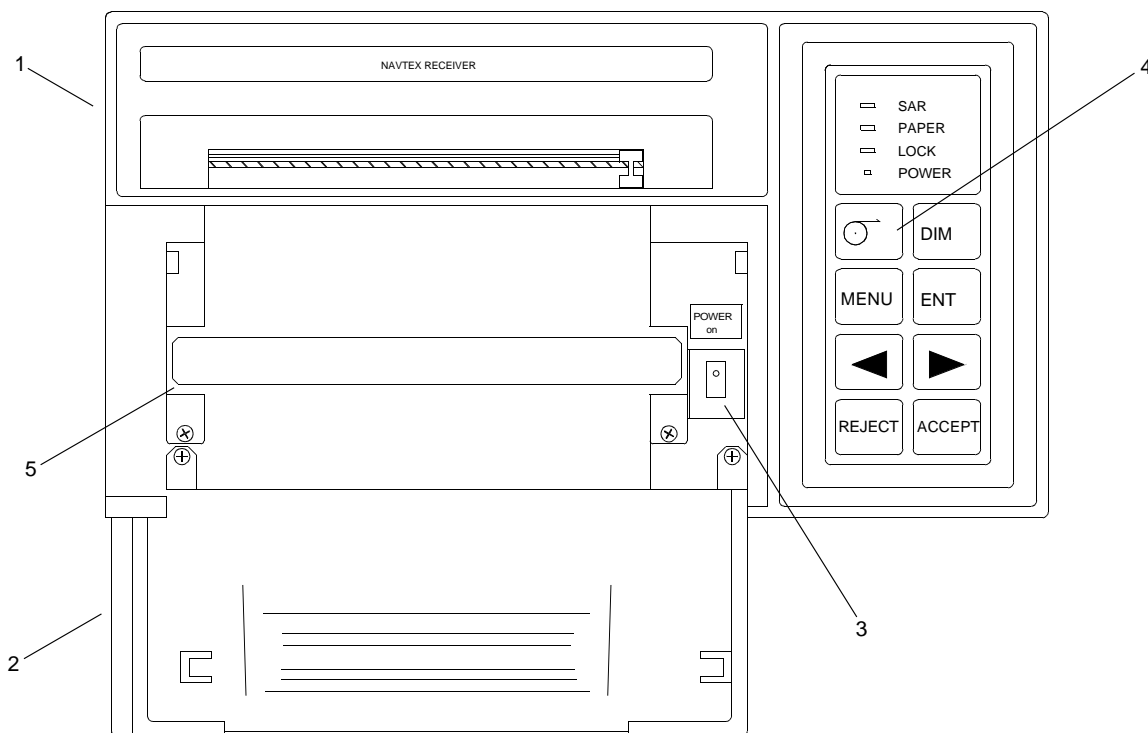
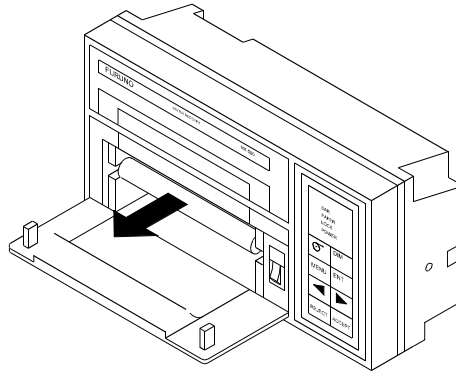

Figure 1. NAVTEX Receiver
Figure 3. Paper Spool
1. On the NAVTEX receiver (figure 1, item 1), lower the paper cover (figure 1, item 2) to access the POWER switch (figure 1, item 3).
2. Position the POWER switch (figure 1, item 3) to the on position.
3. Press the feed key (figure 1, item 4) to draw out the remaining paper.
4. Remove the paper spool (figure 1, item 5) (figure 3).